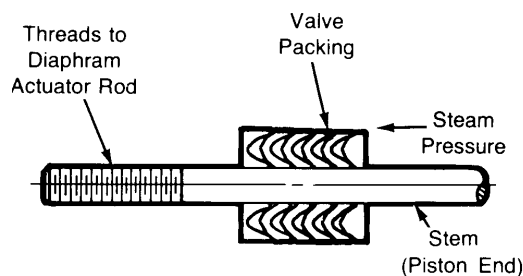

Figure 2
- a. Remove the packing nut (26) and packing gland (19) from the bonnet (20).
- b. Using a stiff wire with a short hook on its end, draw the packing rings (211) out of the bonnet.
- b. Carefully slide a full set of new packing rings over valve stem, per Figure 2 below, making sure that the packing is not damaged by the threads of the stem.